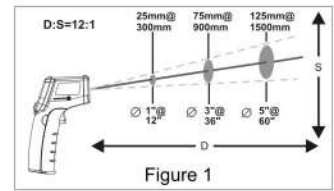

Figure 1
- 1). When take measurement, pay attention to the Distance to Spot Size. As the Distance (D) from the target surface increases, the spot size (S) of the area measured by the unit becomes larger. The Distance to Spot size of the unit is 12:1. (Figure 1)